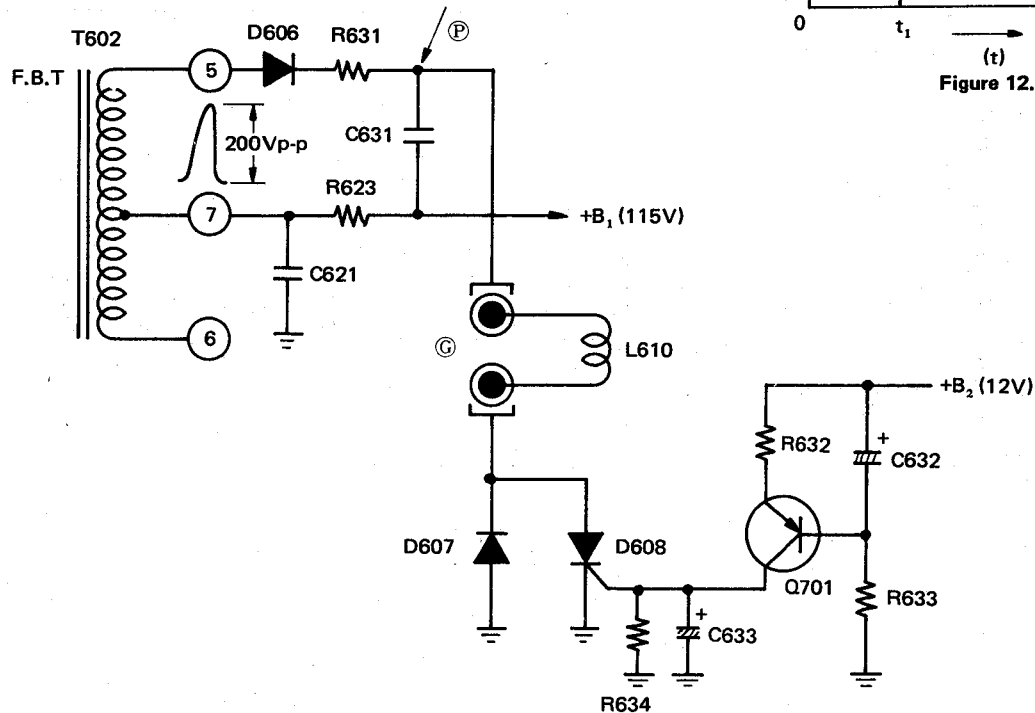
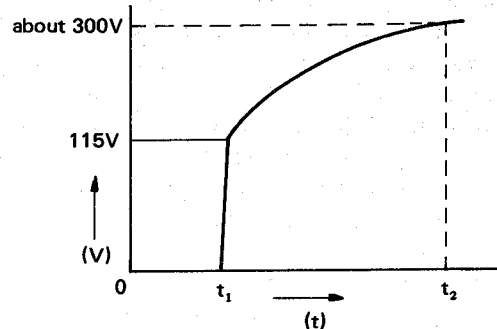

Figure 11.
Figure 12.
In Fig. 11 is shown the extraction of only the demagnetization circuit. When the main switch of TV set is turned on, $+B_1$ (115V) is turned on immediately. Pulse of about 200Vp-p is generated between pins ⑦ and ⑤ of FBT and its peak voltage is rectified in D606, so as to charge C631 via R631. In Fig. 12 is shown the voltage curve between point ⑨ and ground. When the main switch is turned on at the time of t_1 , it immediately rises to 115V and continues to rise gradually according to the time constant set by R631 and C631, and becomes saturated in about 3 seconds later (t_2). Besides, the time constant is so selected that Q701 turns on in about 5 seconds later after the engagement of the main switch, for which C632 and R633 are coupled to the base of Q701. When Q701 turns on, the voltage, which is $+B_2$ (12V) divided by R632 and R634, is then added to the gate of D608(SCR) so as to turn on D608, at which instance the charge accumulated in C631 is connected to ground via L610 and D608.